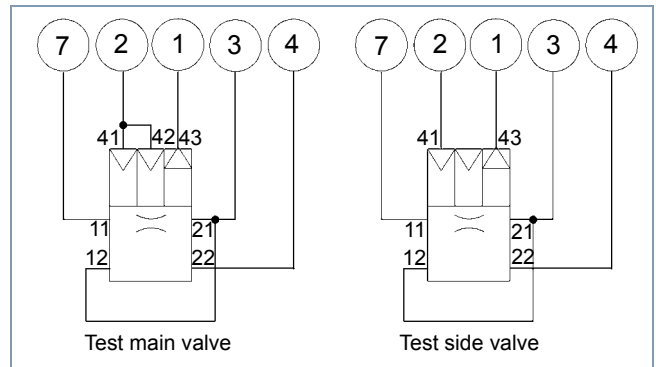

Fig. 2 Connection diagram for test bench 435 197 000 0
- Connect the device to the test bench ports (see fig. 2) or according to the test diagram.